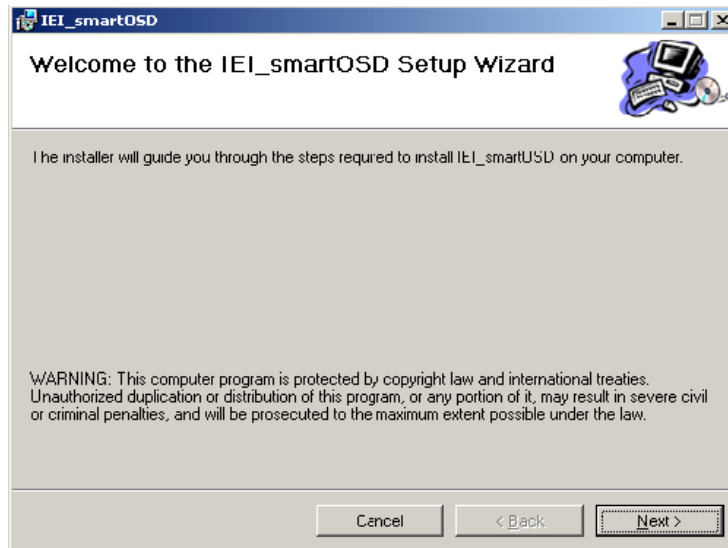

Figure C-2: smartOSD Welcome Screen
Step 3: The welcome screen shown in Figure C-2 appears.